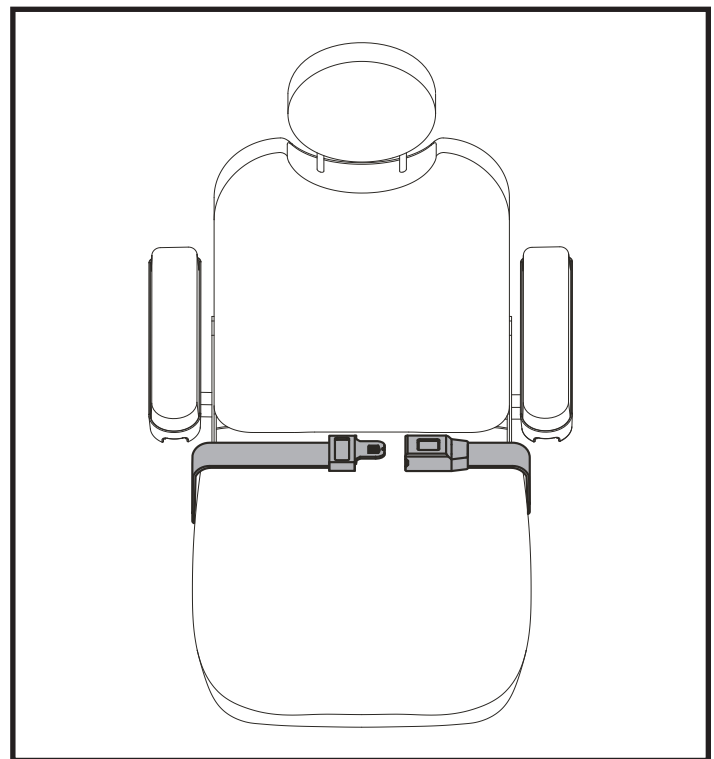

Figure 14. Positioning Belt Adjustment
Your power chair may be equipped with a positioning belt that can be adjusted for operator comfort. See figure 14. The positioning belt is designed to support the operator so that he/she does not slide down or forward in the seat. The positioning belt is not designed for use as a restraining device.
1. Once seated, insert the metal tab on one side of the belt into the plastic housing on the opposite side until you hear a click. See figure 14.